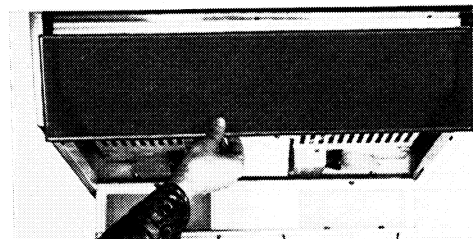
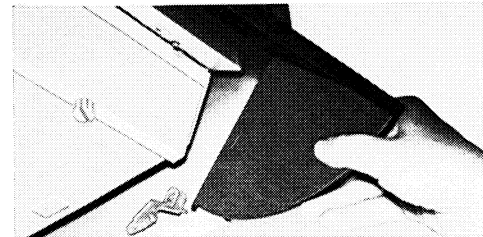

Abb. 10
Abb. 11
c) Remove plastic guide screen; to do this, pull screen – while tilted up – to such an extent downwards (fig. 10) that it is released at the top and slides out of the retaining devices at the bottom (fig. 11).